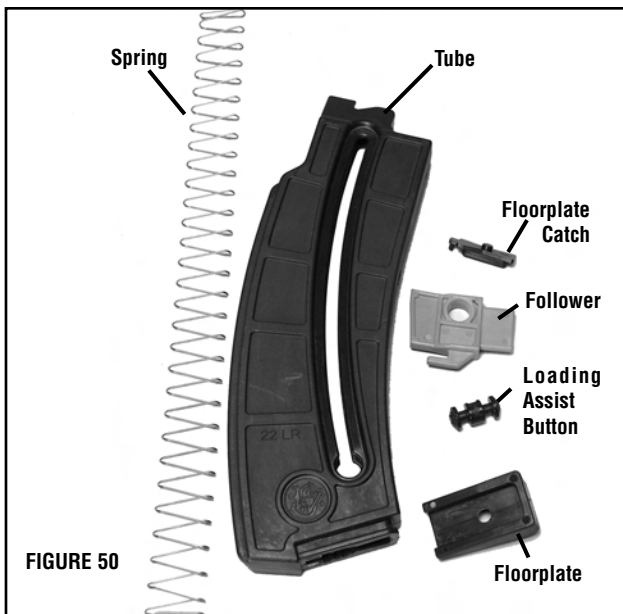

FIGURE 50
- Figure 50 shows the parts that make up the magazine.